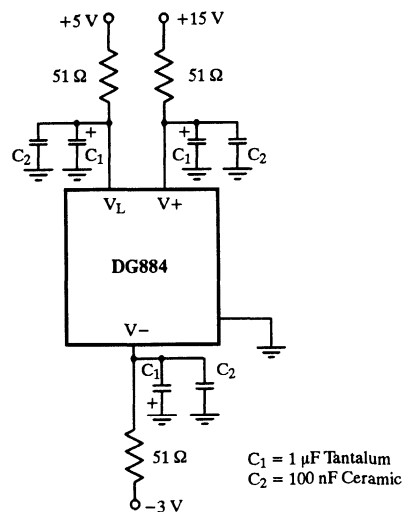

Figure 14. DG884 Power Supply Decoupling
- 4) Additional high frequency protection may be provided by 51- $\Omega$  carbon film resistors connected in series with the power supply pins (see Figure 14).